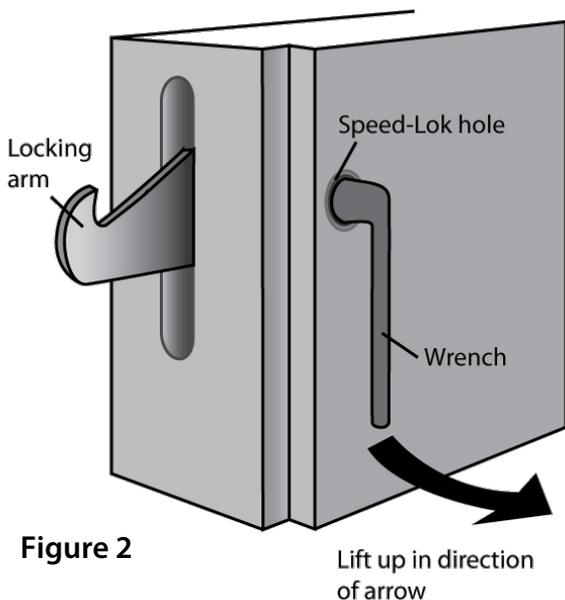

Figure 2
A. Before attempting to erect panels, familiarize yourself with the operation of the locks Figures 2, 3, and 4. On Cold Vault panels, locks will always be on the left turning in clockwise rotation. If for any reason you have to unlock a panel, refer to Section B below.
3. Place your hand near the bend in the wrench and use a lift-up motion. This will produce a clamping action on the hex rod. While doing this, pull forward until the rod is free of the panel. The locking arm will then drop free. *See Figure 2.*